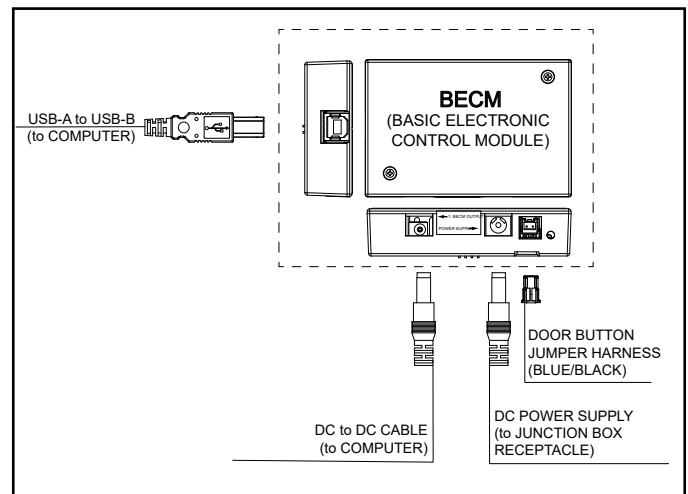

Figure 3.4 BECM Wiring
3. Replace with a new BECM by snapping it into place onto the ACM and reconnect the cables in the same manner. See Figure 3.4.